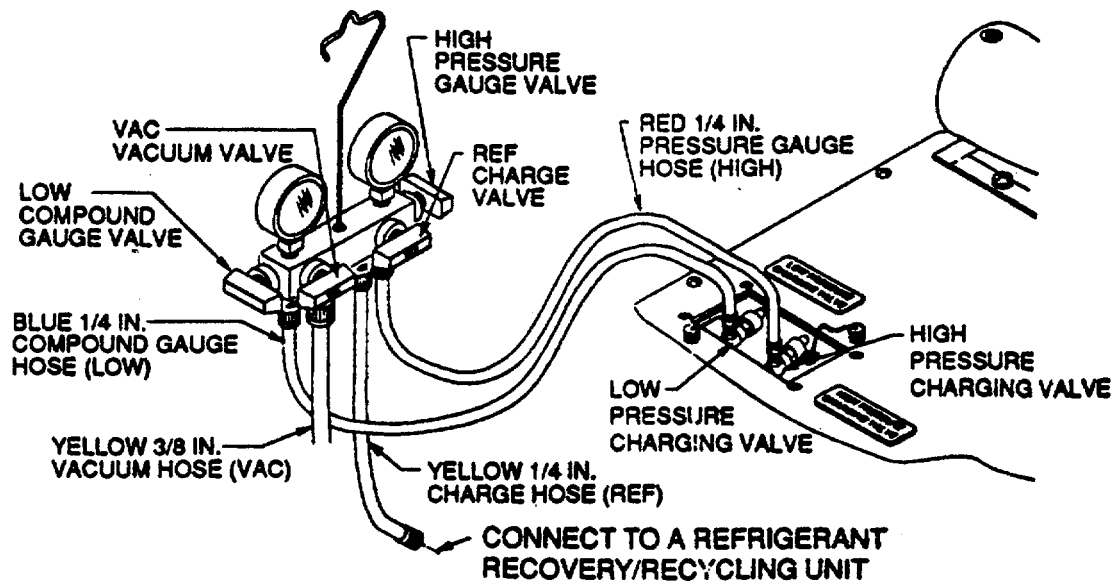

Figure 3-1a. Discharging Refrigerant
- (8) Slowly open the combination gauge handwheel on the manifold. Refrigerant will escape into the approved recovery/recycling system. See figure 3-1a.